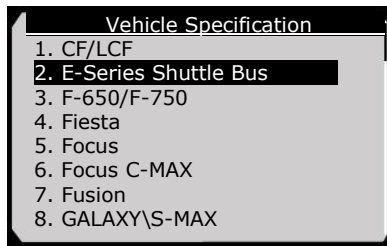

Figure 6.12
- 6) Choose a specific car series from the **Vehicle Specification** menu.(Figure 6.12)